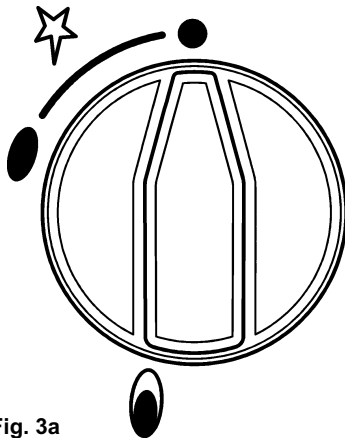

Fig. 3a
2. **To light the appliance** (Fig 3a): At the OFF (●) position push the upper control knob as far as possible and still pushing in **slowly** turn anti-clockwise to the ignition position (✦) to light the burner. Turning the control knob slowly allows gas to enter the burner ready for ignition. Keep the knob pushed in for 10 seconds and the burner should remain alight. If not, repeat the sequence.